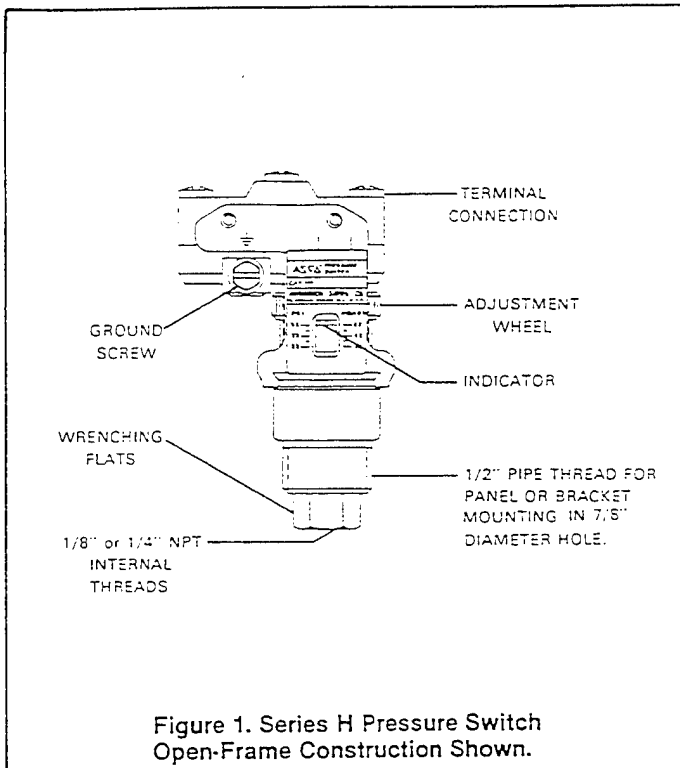

Figure 1. Series H Pressure Switch Open-Frame Construction Shown.
- Panel Mounted Construction: These solenoids are specifically designed to be panel mounted by the customer through a panel having a .0625-.093 maximum wall thickness. Refer to Figure 1 and section on "Installation of Panel Mounted Solenoid".